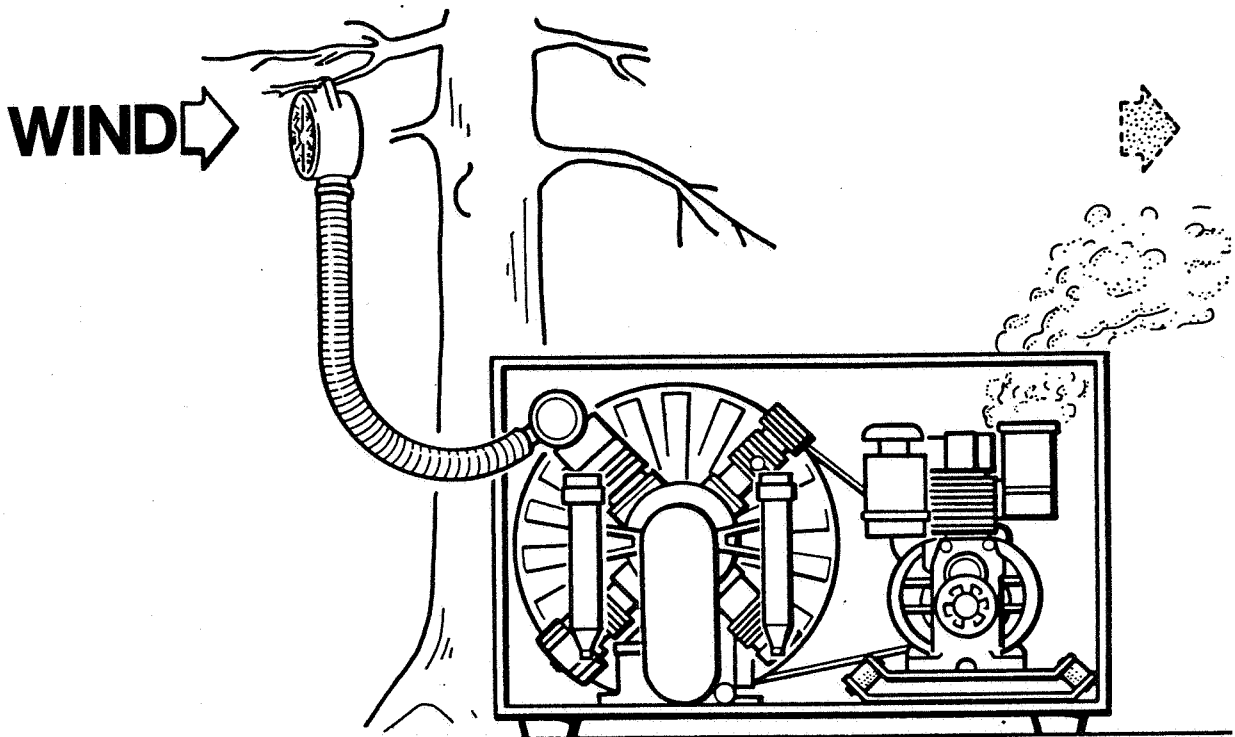

Fig. 15.1 Locating air intake hose
- On units employing gasoline or Diesel engine it is most important that only clean air be used, arrange compressor in direction of wind so that exhaust fumes are blown away from the unit. It is good practice to arrange intake hose with pre-filter of at least 3 m length on intake filter of compressor. Pre-filter to be located 2 meters above ground. See fig. 15.1. This arrangement will ensure necessary spacing between exhaust outlet and air inlet.